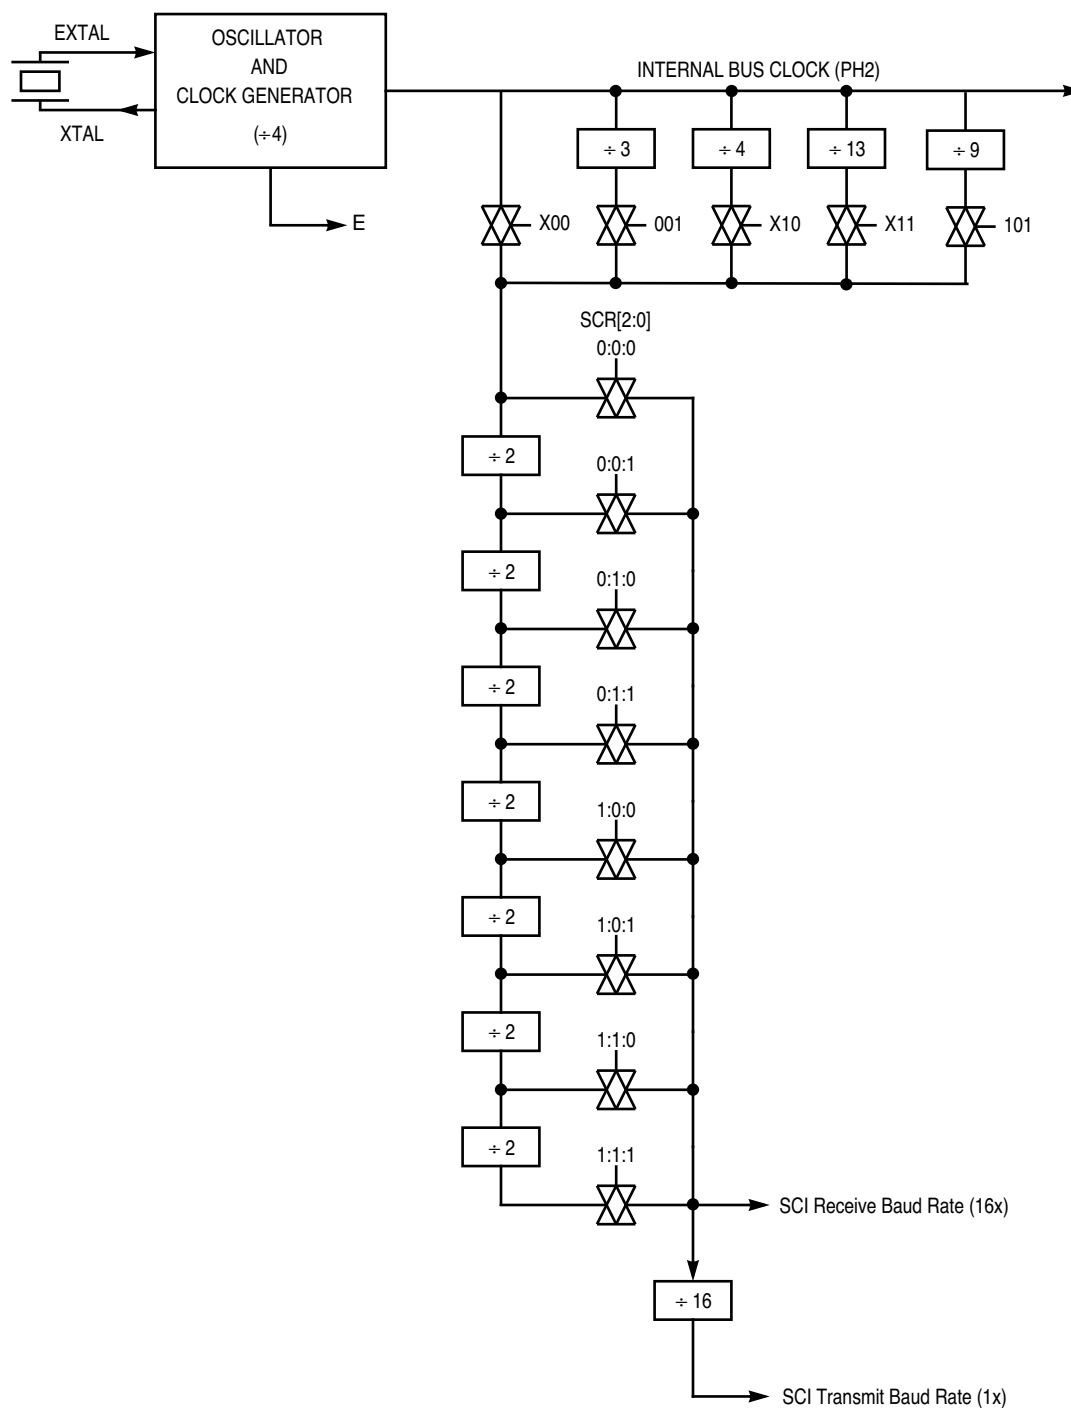

Figure 11 SCI Baud Rate Generator Block Diagram
These bits determine the baud rate prescaler frequency. Refer to **Table 21** and **Figure 11**.
These bits determine the receiver and transmitter baud rate. Refer to **Table 22** and **Figure 11**.
Figure 11 illustrates the SCI baud rate timing chain. The prescaler select bits determine the highest baud rate. The rate select bits determine additional divide-by-two stages to arrive at the receiver timing (RT) clock rate. The baud rate clock is the result of dividing the RT clock by 16.